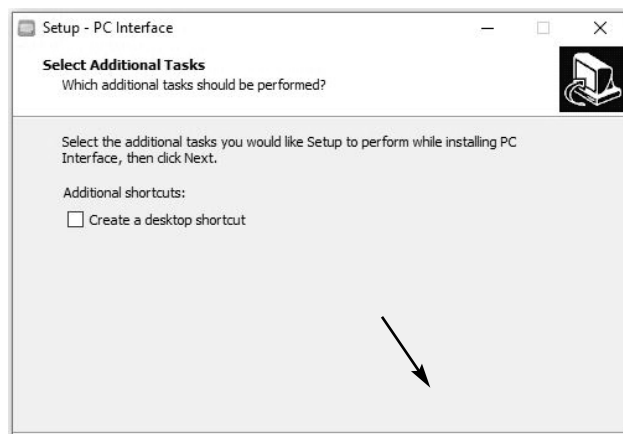

Figure 10-4. Desktop Icon
6. Check the little window if a desktop icon is required. See Figure 10-4. Select **Next**.